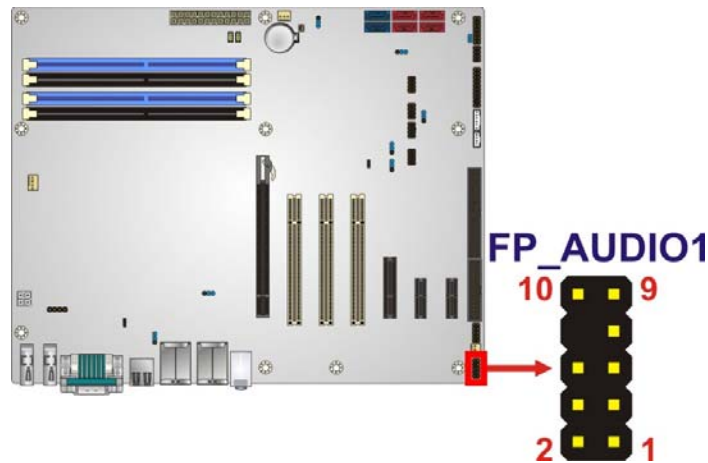

Figure 3-9: Front Panel Audio Connector Location
- CN Location:** See **Figure 3-9**